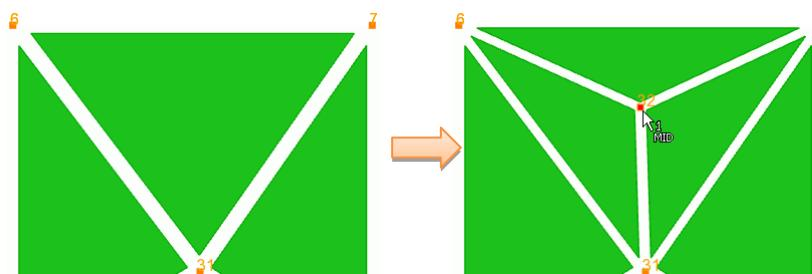

Figure 7-15 Imprint node on a triangle element introduces 3 new triangles.
- 2) It introduces 3 new triangles for a triangle element as in Figure 7-15.